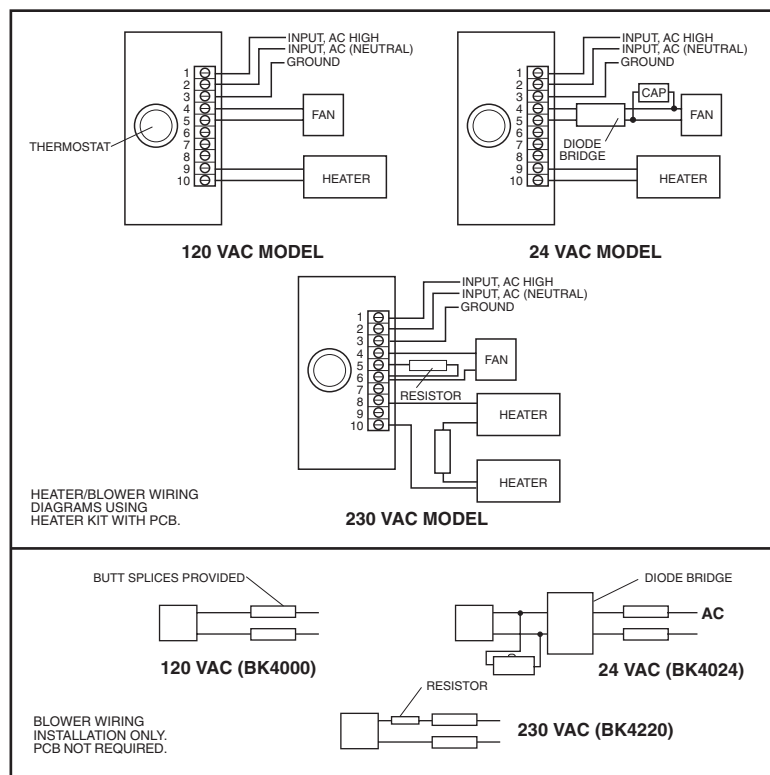

Figure 2. Blower/Heater Kit Wiring Diagram (All Models)
2. Wire as shown in Figure 2. Refer to Table A for cable size.
4. Wire the heater to power. Refer to Figure 2 and Table A.
5. Wire the fan and power to the PC board. Refer to Figure 2 and Table A.